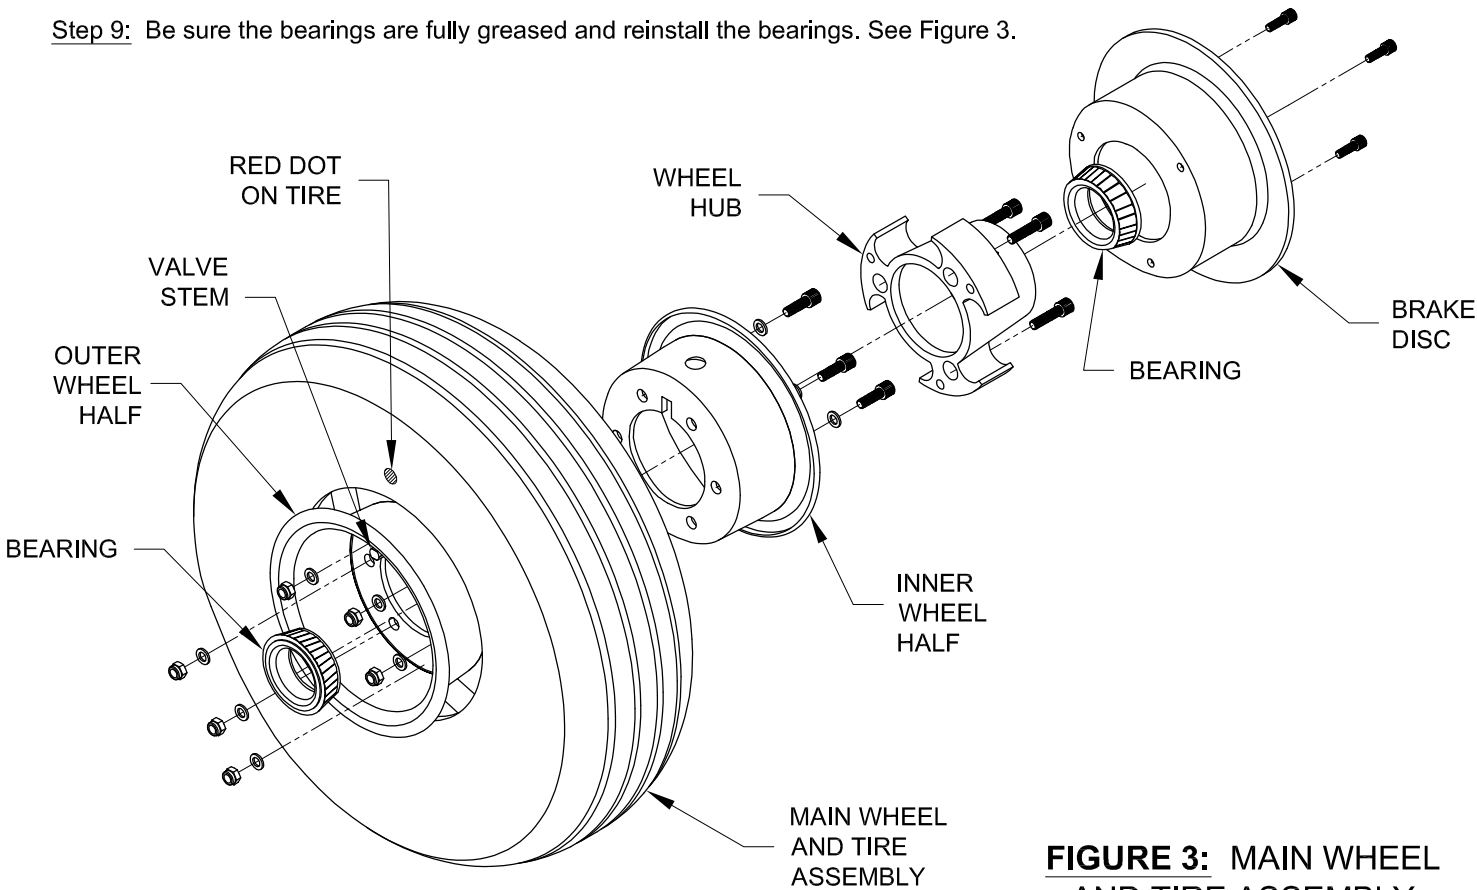

FIGURE 3: MAIN WHEEL AND TIRE ASSEMBLY
Step 6: Split the Main Wheel Assembly by removing the cap screws holding the Brake Disk to the wheel. Remove the bolts holding the Inner and Outer Wheel Halves together. Pull the bearings from the Main Wheel Assembly, clean and dry. Pay close attention to how the bearings, and hubs are installed so that they can be reinstalled in the same way. See Figure 3.
Step 7: Dust the U 5:00X5-6IT Tube (not shown in Figure 3) and the inside of the U 5:00X5-6 Tire with talcum powder, then mount the tube and tire on the Inner and Outer Wheel halves. The red dot on the tire is installed next to the valve stem of the tube (see Figure 3). Bolt the wheel halves together, taking care not to pinch the tube between the wheel halves. Carefully observe the manufacturer's bolt torque specifications shown on the document in the wheel/ brake package. Attach the brake disk with the cap screws and lockwire screws.
Step 9: Be sure the bearings are fully greased and reinstall the bearings. See Figure 3.